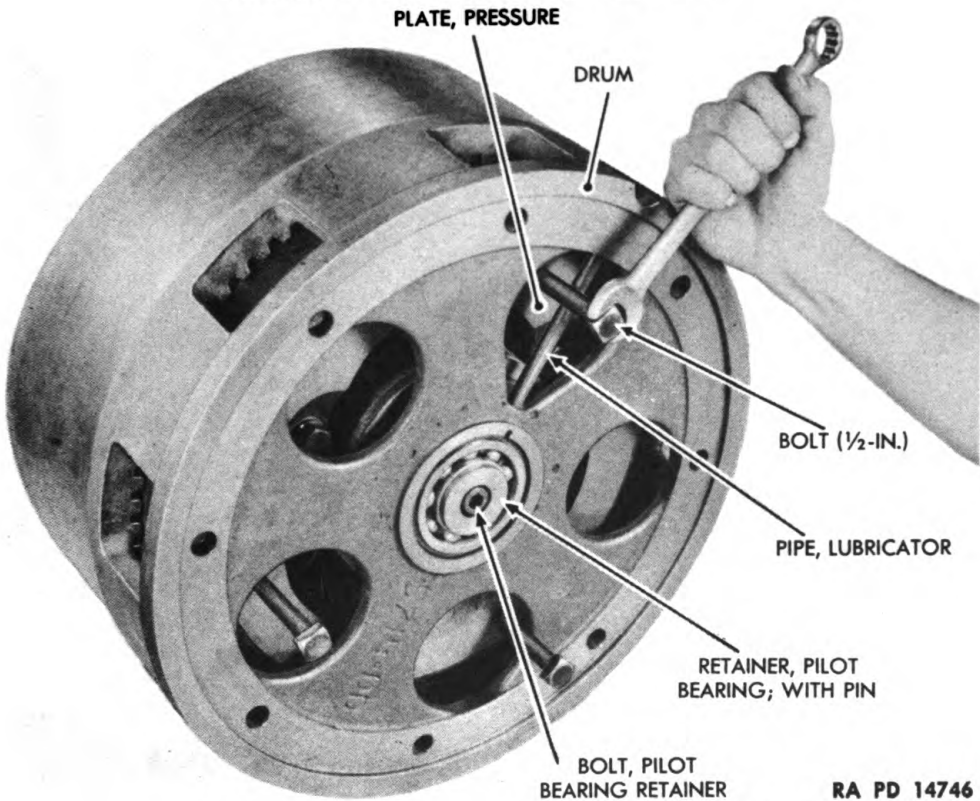

Figure 99 — Compressing Steering Clutch
- (4) COMPRESS STEERING CLUTCH SPRING (fig. 99).
- (5) REMOVE PILOT BEARING RETAINER WITH PIN (fig. 99).